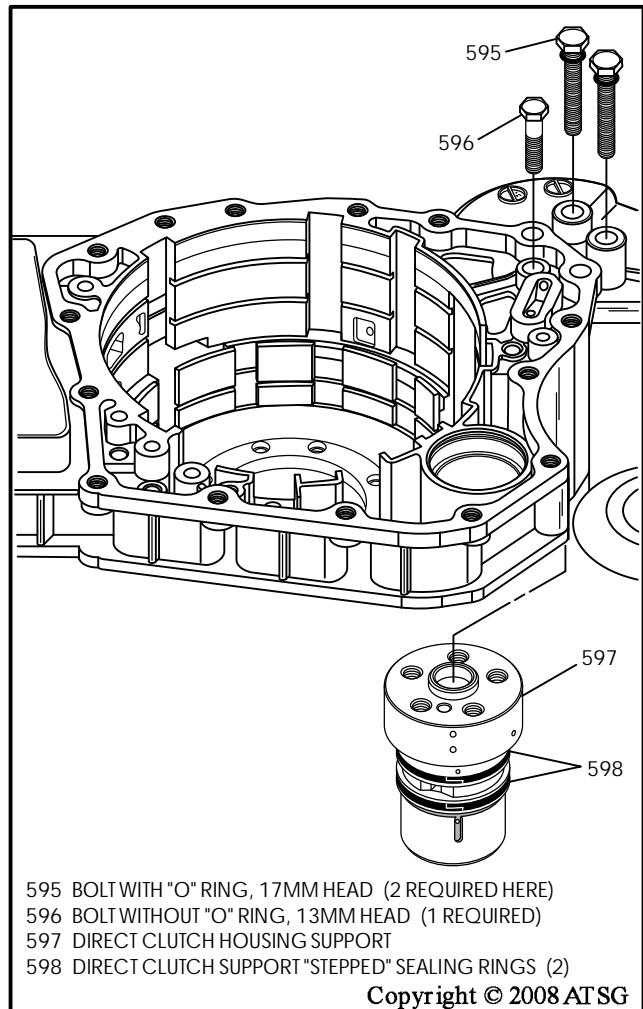

Figure 67
4. Remove the two 17mm head bolts (595) with "O" rings, as shown in Figure 67.
5. Remove the 13mm head bolt (596) without the "O" ring, as shown in Figure 67.
6. Remove the direct clutch support from case, as shown in Figure 67.